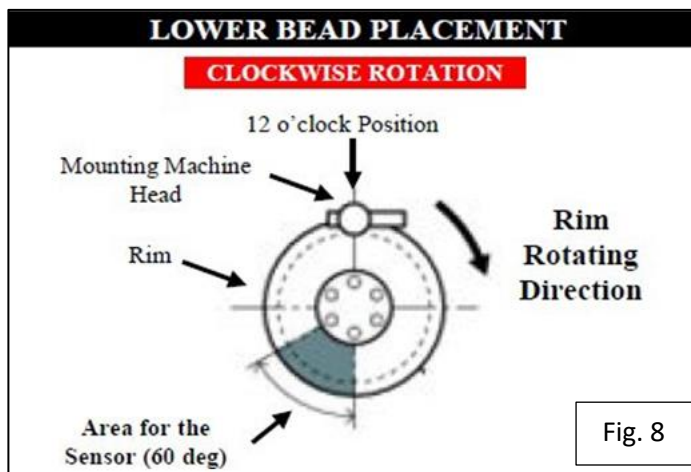

Fig. 8
- b) Position the wheel on the mounting machine with the sensor at ~ 7 o'clock position. See Figure 5a (Shaded Area). Mount/dismount head is considered 12 o'clock position. Figure 8.